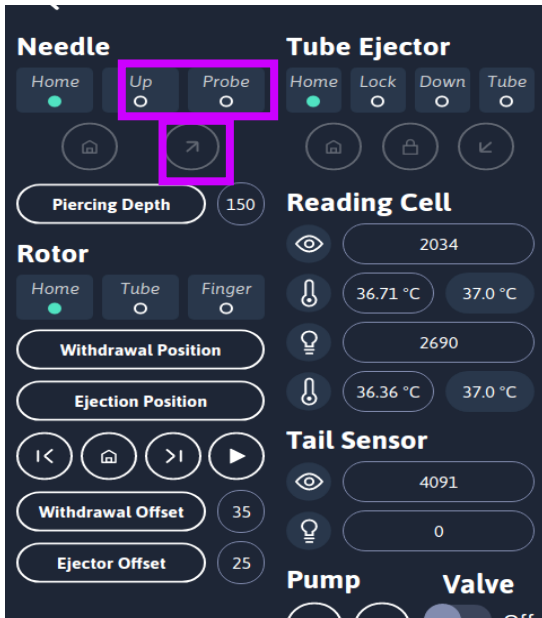

Figure 11
10. On pressing the Withdrawal position 1, the “Needle Up” Button gets activated as highlighted in pink in Figure 11. Press the “Needle Up” Button to pierce the patient sample tube. Observe that “Green light’ is activated on Up and Probe sensor during piercing action.